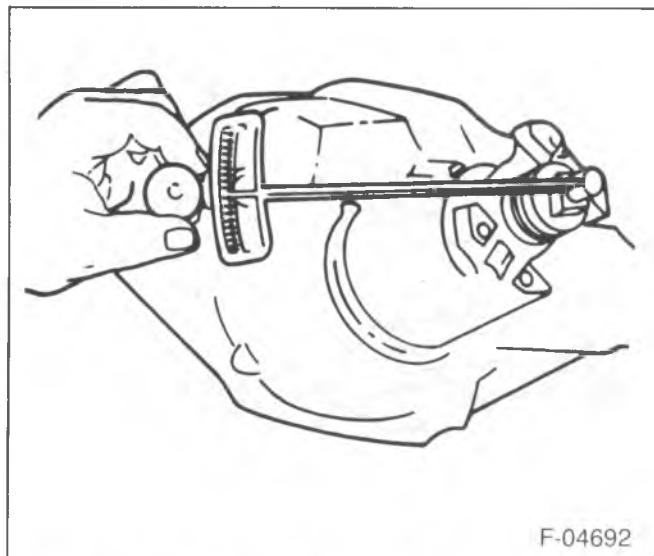

Figure 16—Checking Pinion Bearing Preload
- Remove J 8614-01. Using an inch-pound torque wrench, check the pinion preload by rotating the pinion with the wrench. Preload should be 2.2 to 2.8 N·m (20 to 25 in. lbs.) on new bearings, or 1.1 to 1.6 N·m (10 to 15 in. lbs.) for used bearings (figure 16).